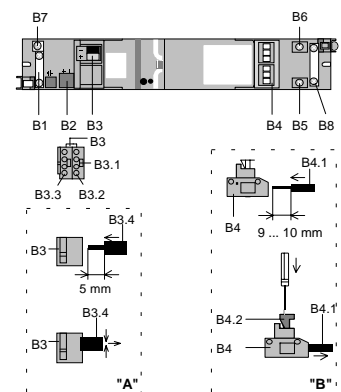

Figure 3: Connections
Slipping off bus connection blocks (Figure 3)
Slipping on bus connection blocks (Figure 3)
Connecting bus cables (Figure 3 "A")
- The sheathing of the bus cable must be attached to the casing of the built-in device via the conductor fixing (B1). When using a cable with shielding, it can be screwed onto the terminal (B7, Figure 3).
The recess (B2) can be used to accommodate an overvoltage protection which is connected to the bus connection block in parallel with the bus line (Figure 3).
Disconnecting bus cables (Figure 3 "A")
Connecting load circuits (Figure 3 "B")
- The sheathing of the bus cable must be attached to the casing of the built-in device via the conductor fixing (B8, Figure 3).
The terminals (B5) and (B6) are used to connect the N wire (B6) and PE wires (B5) of several cables (Figure 3).
Disconnecting load circuits (Figure 3 "B")